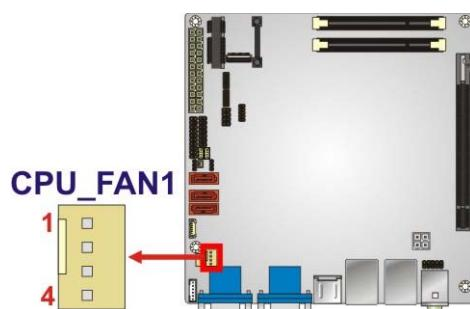

Figure 3-11: CPU Fan Connector Location
**CN Location:** See Figure 3-11